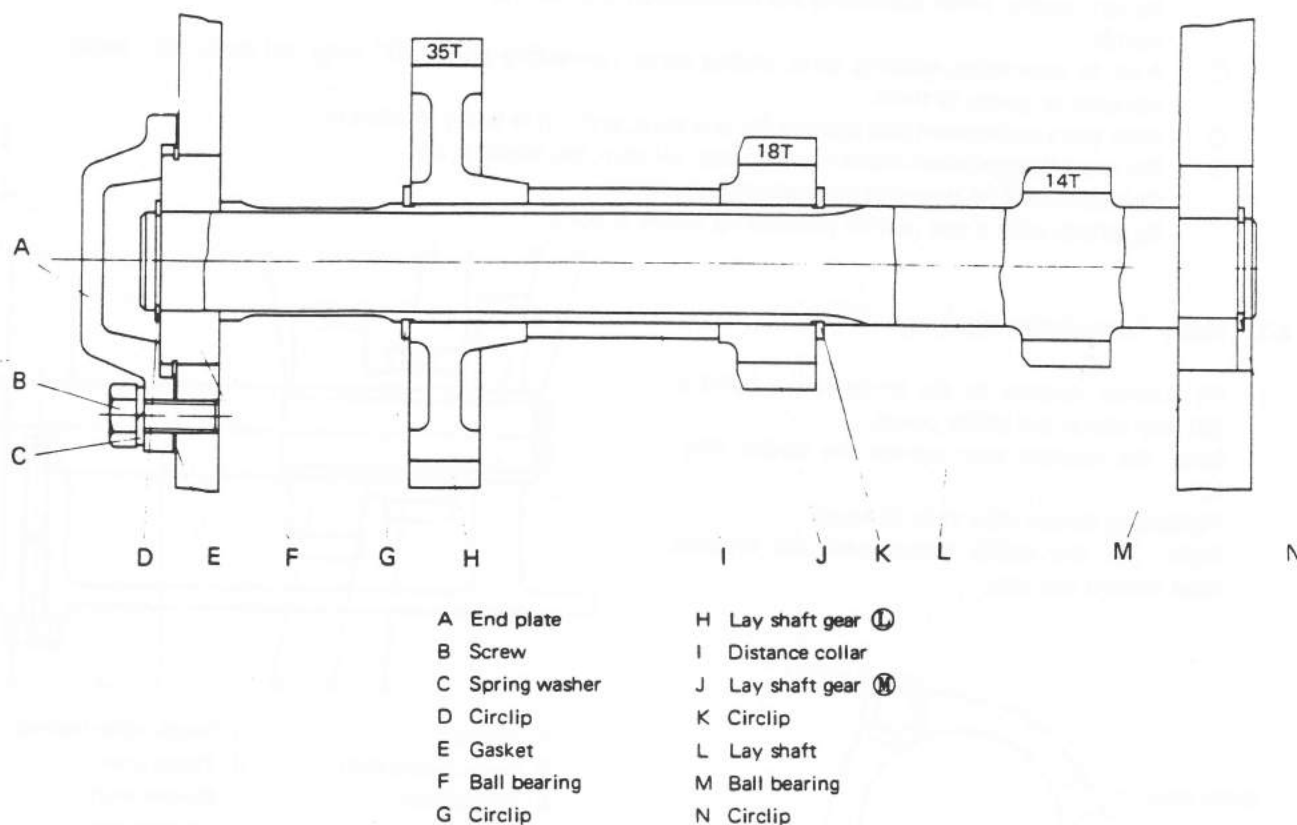

Fig. 15 Layshaft Assembly
the lay shaft gear ①, the distance collar, and the lay shaft gear ② in that order, and then set them with circlips by using a special tool (S-0, SNAP RING PLIERS) (Fig. 15).